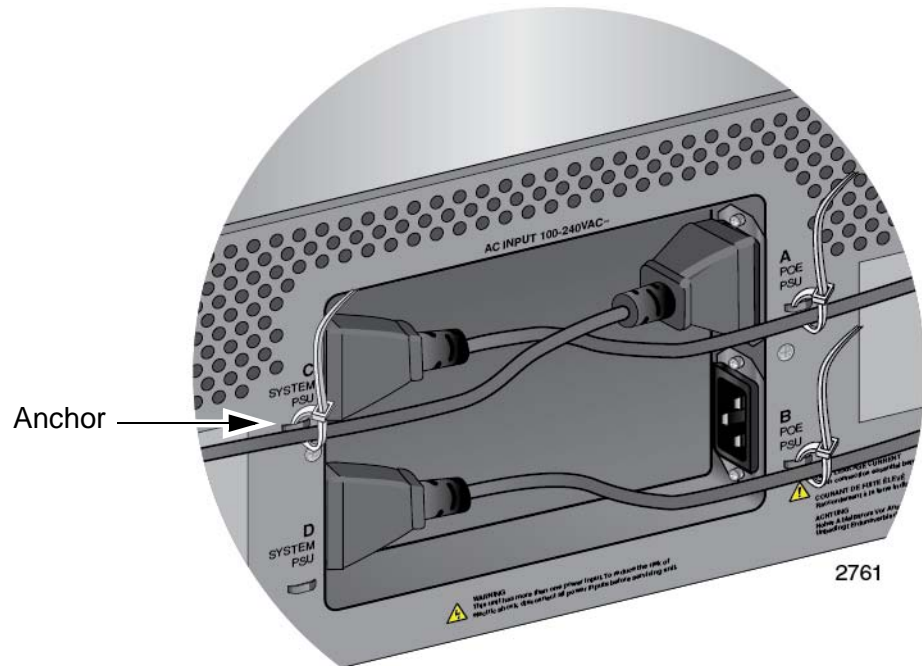

Figure 123. Securing the Power Cord for the AT-SBxPWRPOE1 Power Supply to an Anchor
3. Use the twist tie that comes with the power supply to secure the cord to an anchor on the chassis, as shown in Figure 123 on page 187.